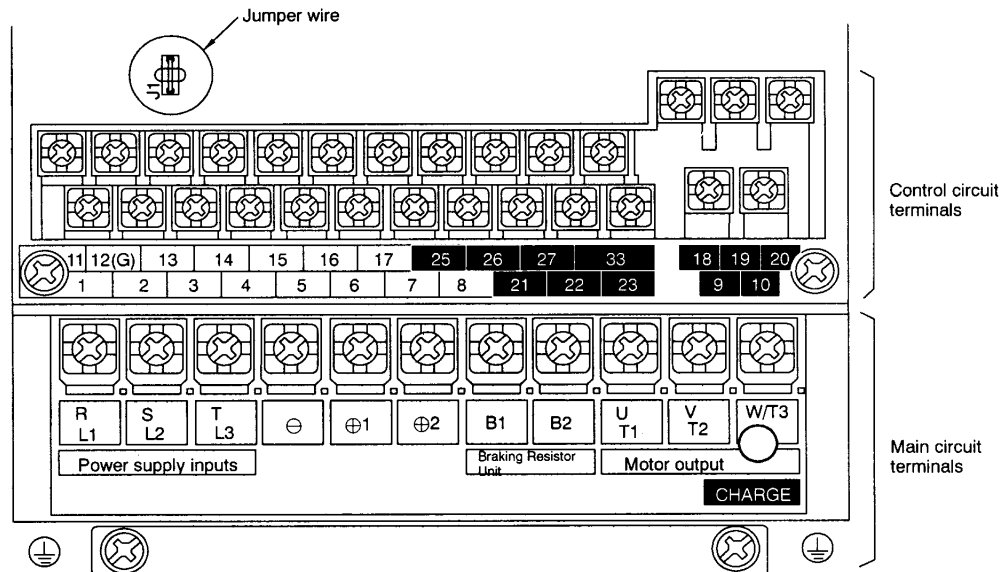

Figure 7.10 Jumper Wire Location for 200 V Class Inverter of 0.4 kW
- When supplying a voltage input to the frequency reference current input (Terminal 14) (a setting of 0 or 1), be sure to disconnect jumper wire J1 on the control board. (See *Figure 7.10*.) If the jumper wire is not disconnected, the input resistor will be destroyed.
- When supplying a voltage input to a frequency reference current input (Terminal 14), be sure to disconnect jumper wire J1 on the control board. If the jumper wire is not disconnected, the input resistor will be destroyed. Refer to *Figure 7.10* for a diagram of the control board.